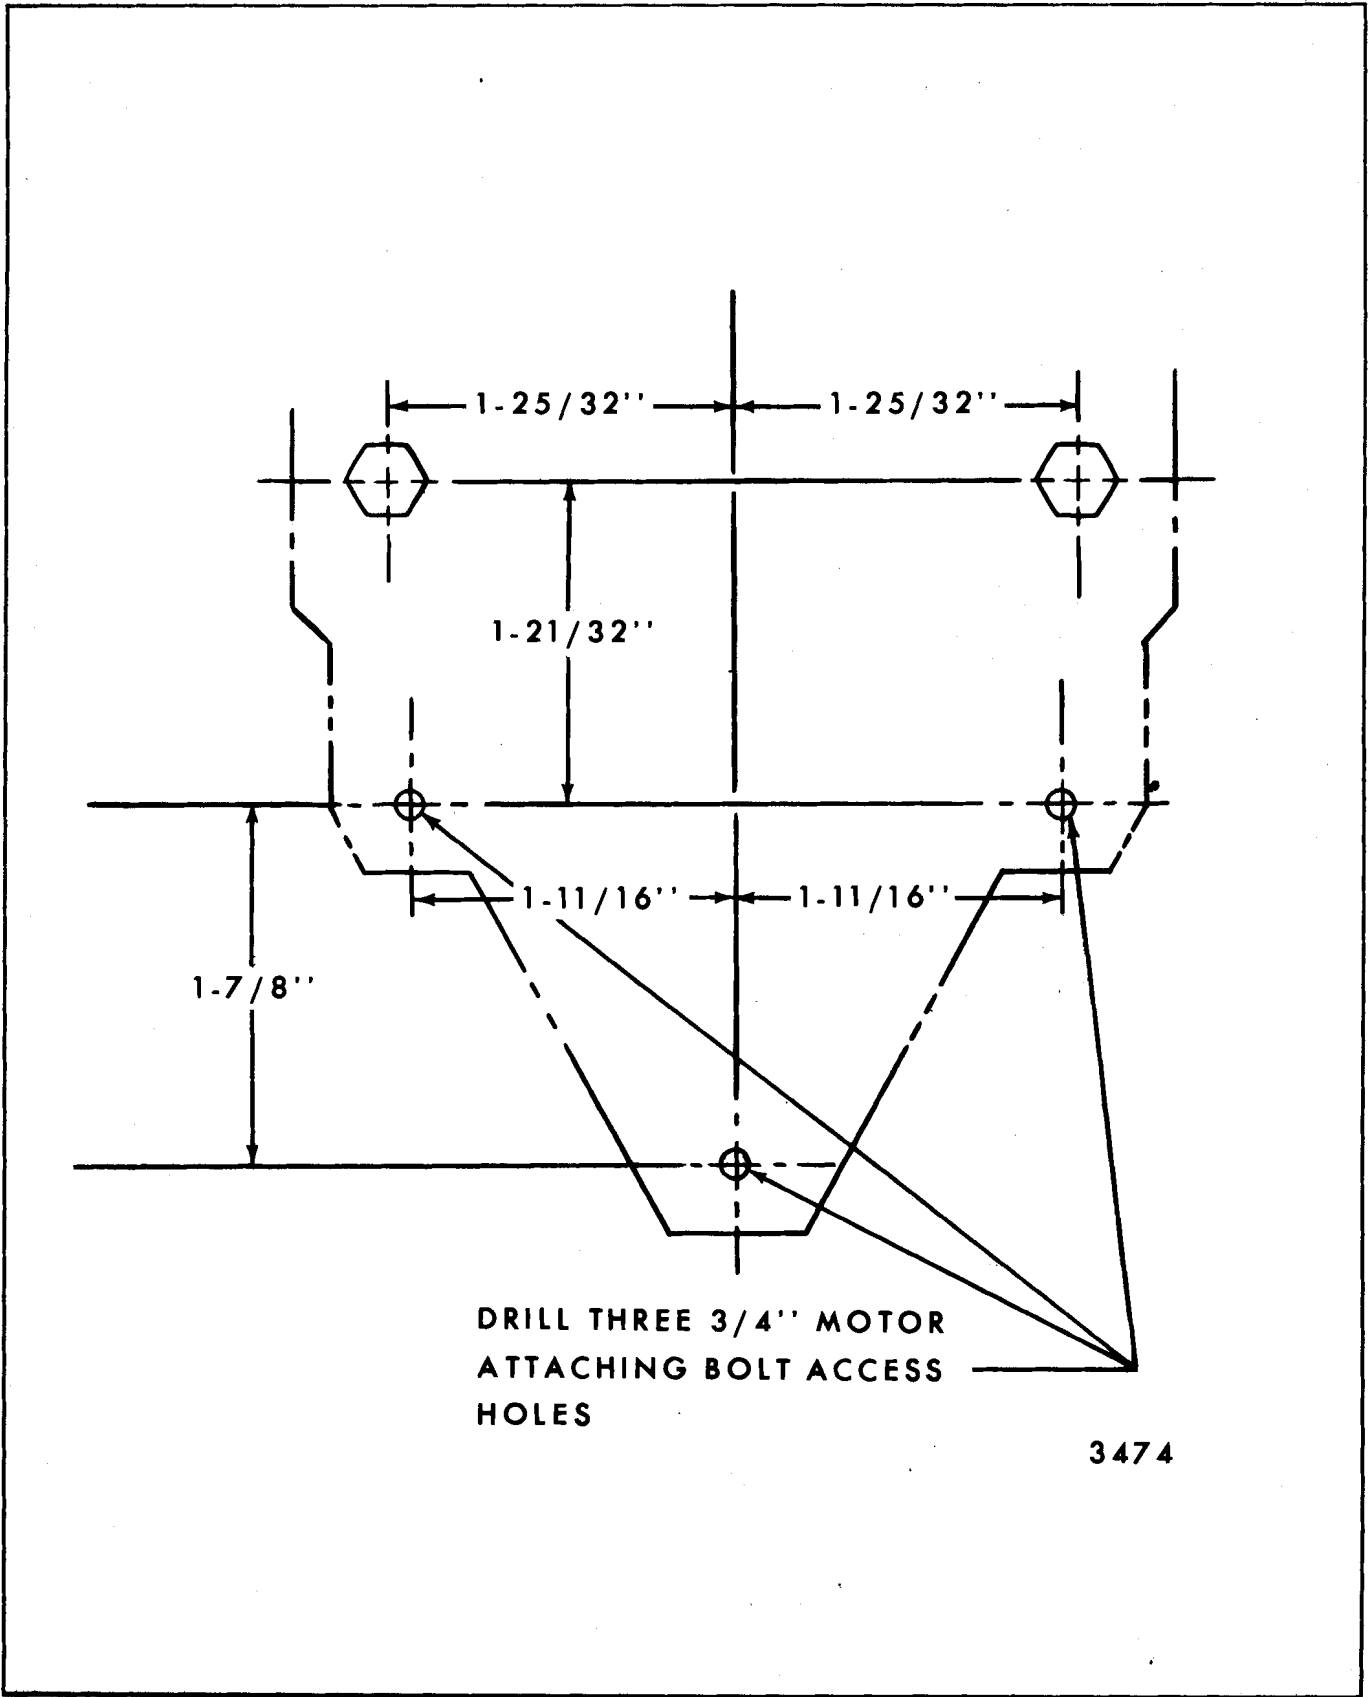

Fig. 7-26-Window Regulator Lower Attaching Bolts (Reference Points for Locating Window Motor to Regulator Attaching Bolts) - "A-27, 37, 57, 67, 77 87" Styles
3. Referring to Fig. 7-26 for "A" body styles, make a template for locating window motor to regulator attaching bolts.